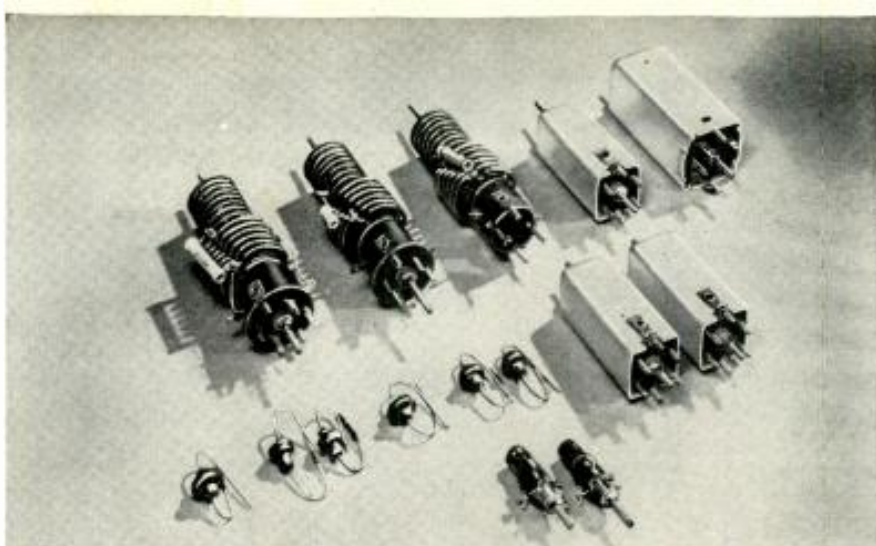

Fig. 1. A typical kit, available from jobbers, of r.f., i.f., and video peaking coils, traps, and transformers for one set manufacturer's line.
Fig. 1. Complete schematic diagram and parts listing for the sound level meter. Note that *V₁* and *V₂* may be 2N107's, CK722's, or 2N180's. Parts are not critical and substitutes may be used.
I.f. coils: A typical assortment of jobbers' coil replacements is shown in Fig. 1. It includes traps, i.f. transformers, and even video peaking coils. In the case of single coils, the replacement problem is not serious since most of the replacement coils cover a wide enough tuning range and fit into a standard mounting. When a shielded coil is de-